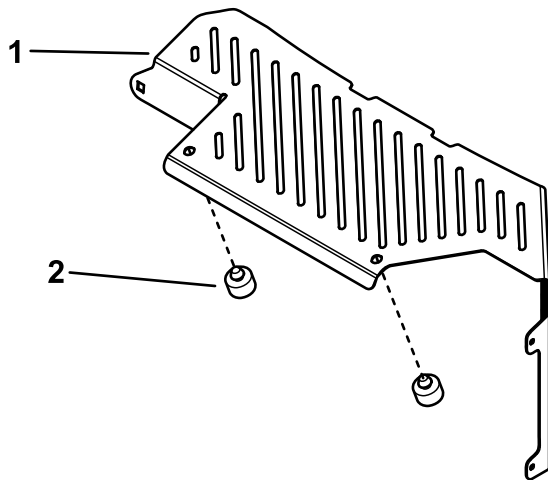

Figure 5
1. Install the 2 bumpers on the heat shield (Figure 5).